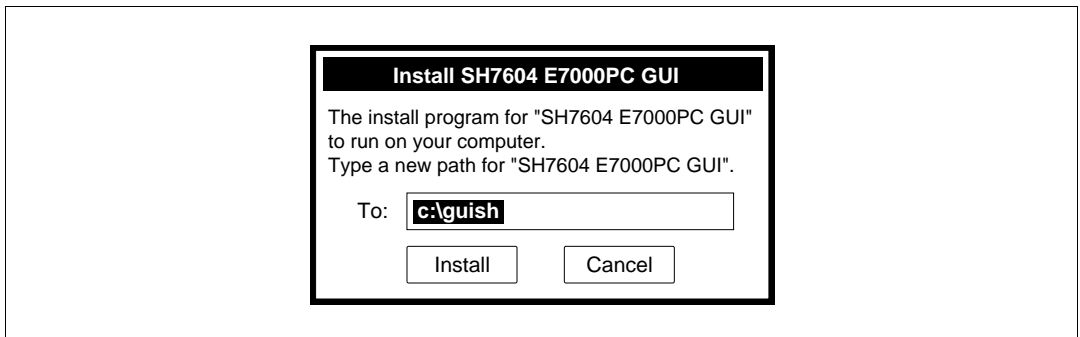

Figure 2-4 Installation Directory Specification (INSTALL)
- (5) Click the <OK> button to initiate installer program.
- (6) When the installer program is initiated, a window is displayed prompting the user to specify the directory in which the GUI-SH is to be installed as shown in figure 2-4. The installer program copies the files necessary for GUI-SH execution to the directory specified in this window. When the specified directory already exists, a message box is displayed to confirm whether the user wants to overwrite the directory.